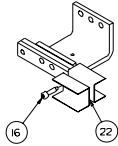

Figure 9
10. Reference fig. 9 - Installing the provision barrier (item 22). In the case of a provision, orient the barriers as shown in fig. 9. Insert the 10-24 socket-head cap-screw through the 0.228" holes in the barrier and through the 0.173" hole in the B-phase link and tighten. Repeat this step if there is another provision.